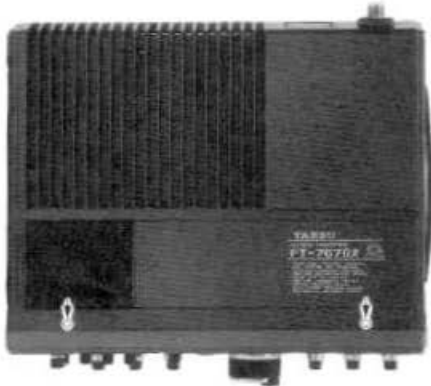

Figure 2
- 3) Remove the two screws at the front of the top cover (heatsink, see Figure 2).